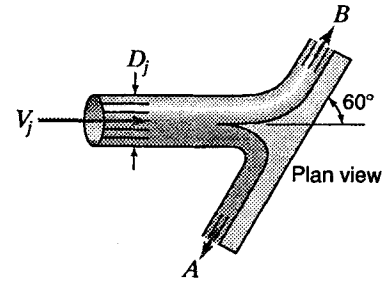

Figure P6.15
6.16 Refer to Fig. P6.15. Assuming ideal flow in a horizontal plane, calculate the magnitude and direction of the resultant force on the stationary blade. Note that the jet ($V_j = 12$ m/s, $D_j = 150$ mm) is divided by the splitter so that one-third of the water is diverted toward A.